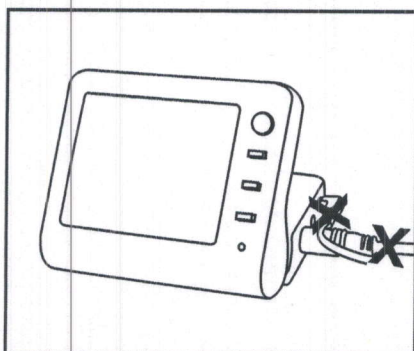

Fig.3
- 1) Disconnect the Measuring wire or test handle.(Fig.3)